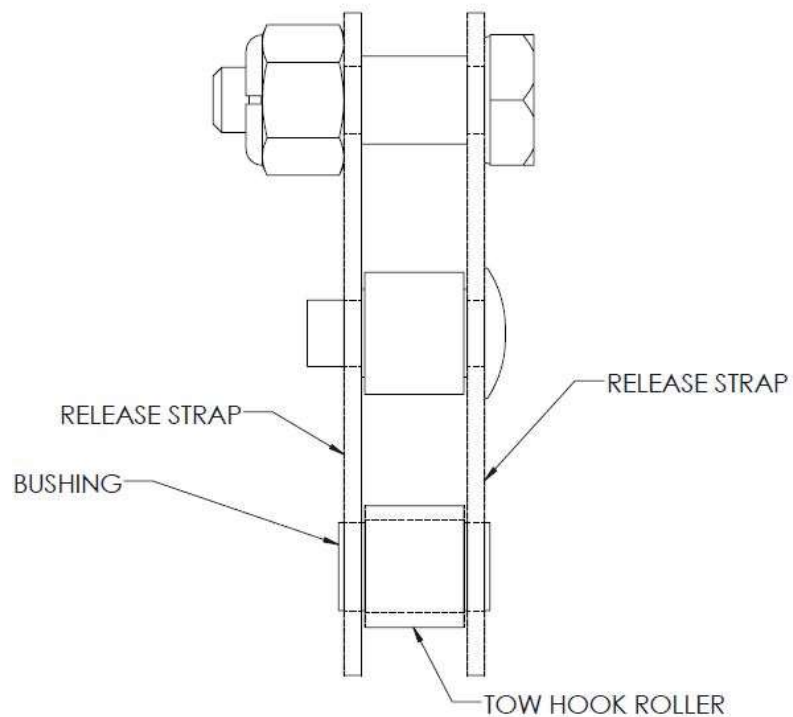

Figure 6.2: Release Subassembly with Tow Hook Roller and Bushing in place.
- (5) Insert the new Bushing into the Tow Hook Roller. Refer to Figure 6.2 for clarification.